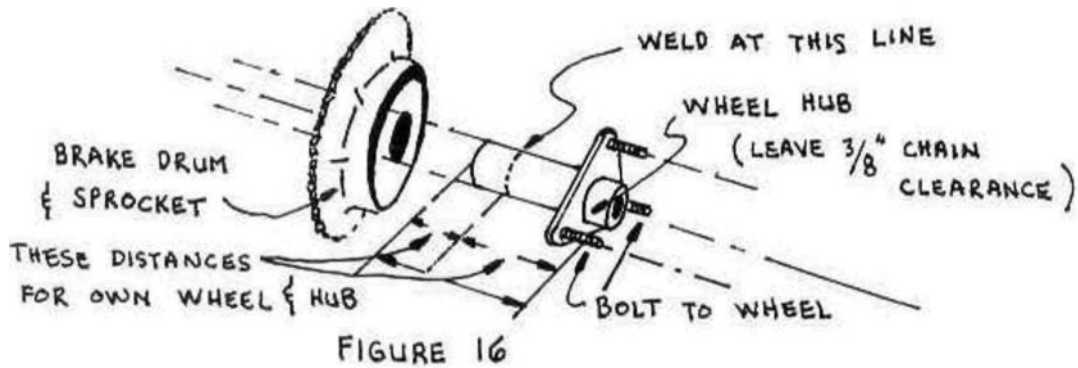

FIGURE 16
12. Weld the brake drum and sprocket assembly to the hub of the rear wheel as shown in Figure 16 below. Before welding check to make sure that you have 3/8" clearance between the sprocket and the tire. Bolt the hub to the rear wheel.